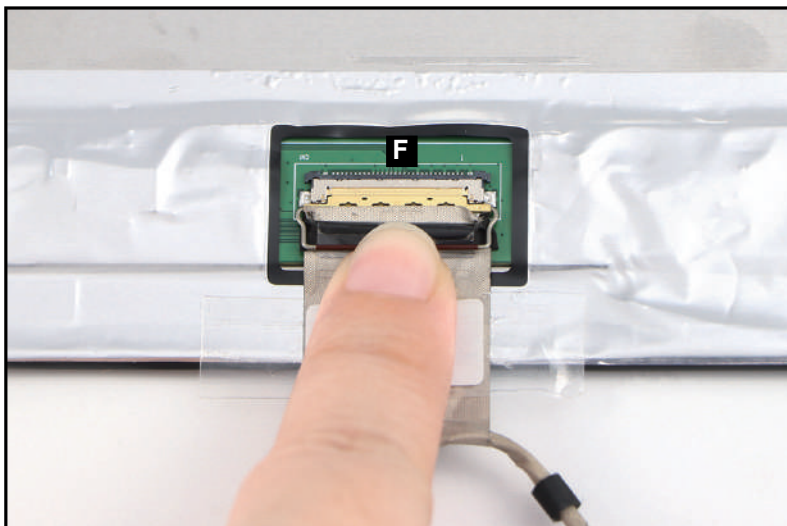

Figure 3-79. LCD Panel Removal
5. Disconnect the LCD cable from the LCD panel connector (F) (Figure 3-79). Then remove the LCD panel.